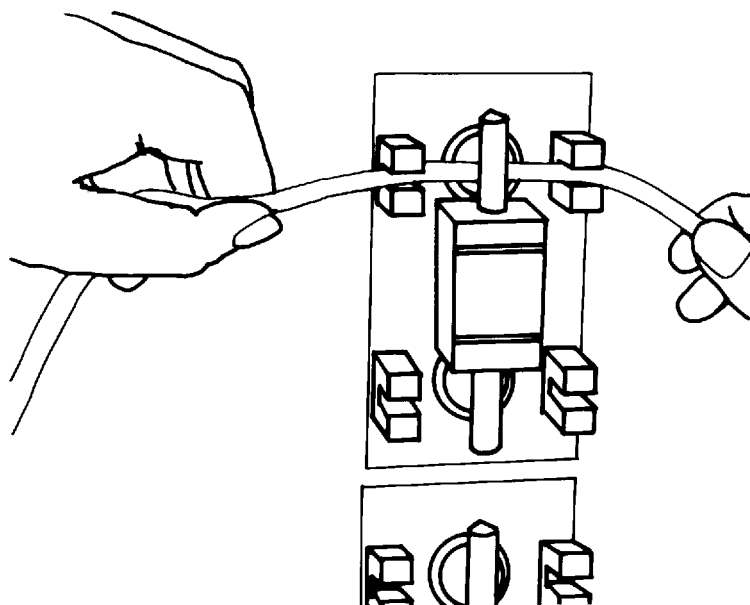

Figure 6-2: Inserting the red-striped tubing into valve V1
- 7 Turn the VALVE SELECTOR control to the V1 position. Insert the red-striped tubing into the red-coded valve V1 (Figure 6-2).